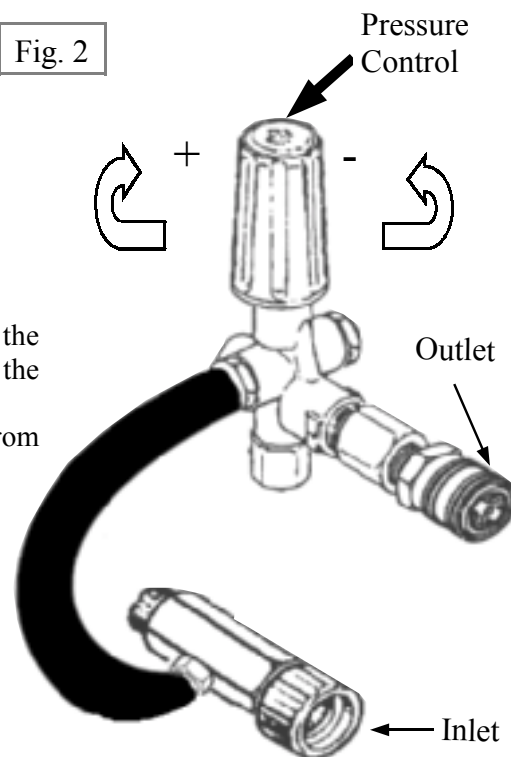

Fig. 2
4. Connect a standard garden hose to the water inlet or bottom connection on the pump head ( Female hose connector). Fig. 2.
5. Connect the high pressure hose to the water “Outlet” or upper connection on the pump head. (Male quick connect nipple). Fig. 2.